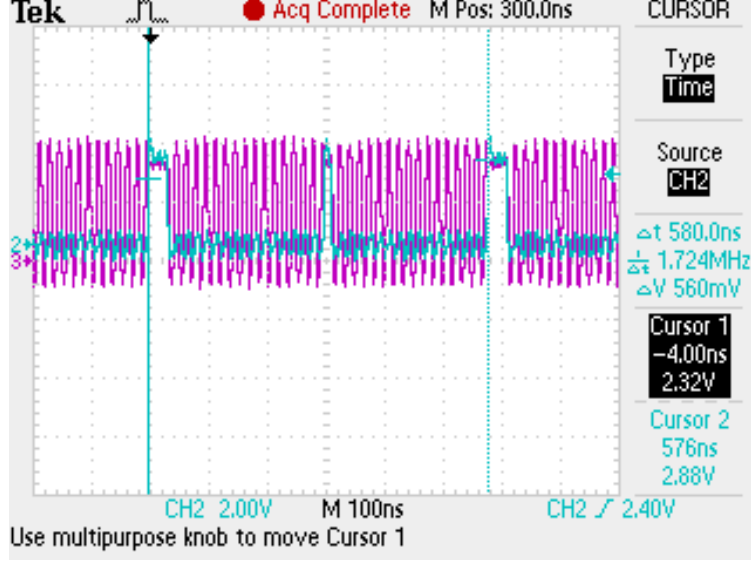

Figure 9: Measurement of ADC throughput. The clock(purple) and chip select(blue) signals are perfectly synchronized.
2. Directly measure the period of transaction on oscilloscope(Fig. 9).